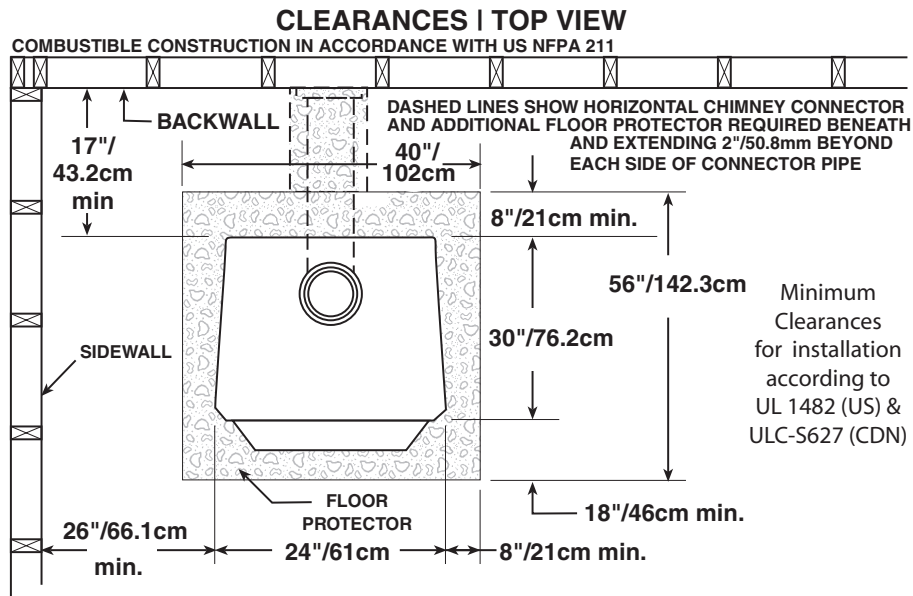

Figure 4 – TOP VIEW Minimum Clearance Dimensions from Combustible Surfaces
- The stove must be placed on solid concrete, solid masonry, or when installed on a combustible floor, on an Underwriters Laboratories Listed Type 2 floor protector listed to UL standard UL 1618, such as Hy-C or Imperial Model UL4056BK. Floor protector **must be 1/2"/13mm minimum thickness (R value = 1.19, K value = 0.84** see page 23 for calculation formulas) non-combustible material or equivalent. The floor protector must extend at least 18"/46cm beyond the front of the access door, 8"/21cm to the sides, 8"/21cm beyond the rear and must extend under and 2"/50mm beyond either side of the stove pipe if it is elbowed towards a wall. (See figures 4 – 6 and consult local building codes and fire protection ordinances.)
- After observing the clearances to combustible materials (figures 4 – 6), locate your floor protector accordingly (figure 4) and carefully place the stove in your selected location. Install connector pipe, elbows, and thimble as required, utilizing either a recently cleaned and inspected 6"/152mm lined masonry chimney or a 6"/152mm i.d. manufactured chimney system listed to UL 103 HT (US)/ULC-S629 (CDN).
- Use round 6"/152mm dia., minimum 24 MSG black or 26 MSG blue steel stove pipe to connect the stove to the chimney. Do not use galvanized stove pipe. **NOTE: Mobile home installations require double-wall UL 103 HT high-temp connector pipe.** Secure connector pipe to the flue collar with three (3) equally spaced sheet metal screws to
- Recheck clearances from the stove, connector stove pipe, and corner clearances using the illustrations in figures 4 – 6 and your local building codes or fire protection ordinances.